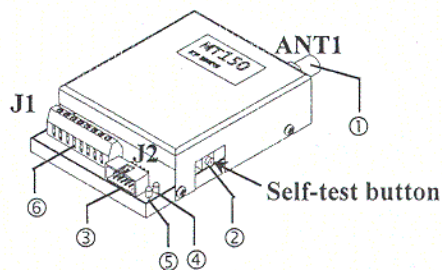

Figure 1: MT150™ External View
MT150™ has three sets of connectors: J1, J2, and ANT1 (see Figure 1).
- J1:** The 8-pin contact connector connects the following items (Figure 1, item 6):
Press and release the self-test button while observing self-test LED 2 (Figure 1, item 4). Refer to Table 2 for self-test results.